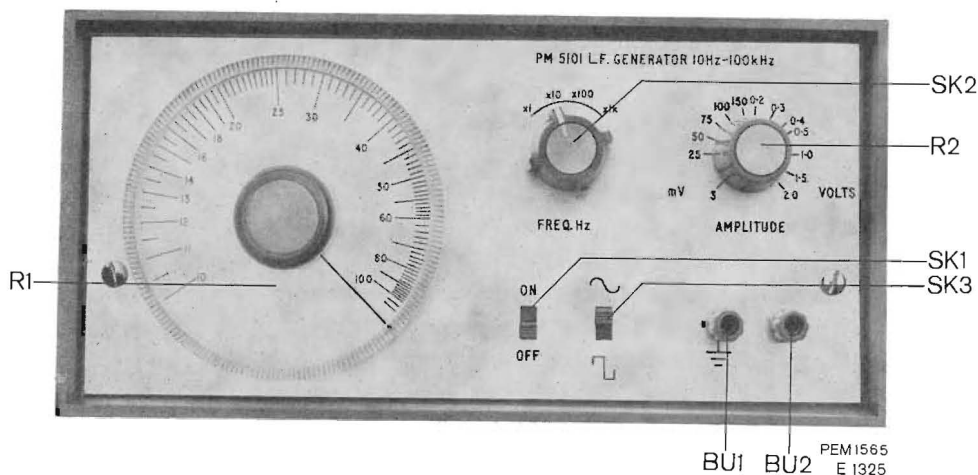

Fig. 1. Front view with indication of the controls
A. SWITCHING ON (see Fig. 1)
It is provided with figures 1 . . . 8, corresponding to figures 1 . . . 8 in the circuit diagram. These figures indicate the connection points between the parts mounted on the chassis and the printed wiring panel.